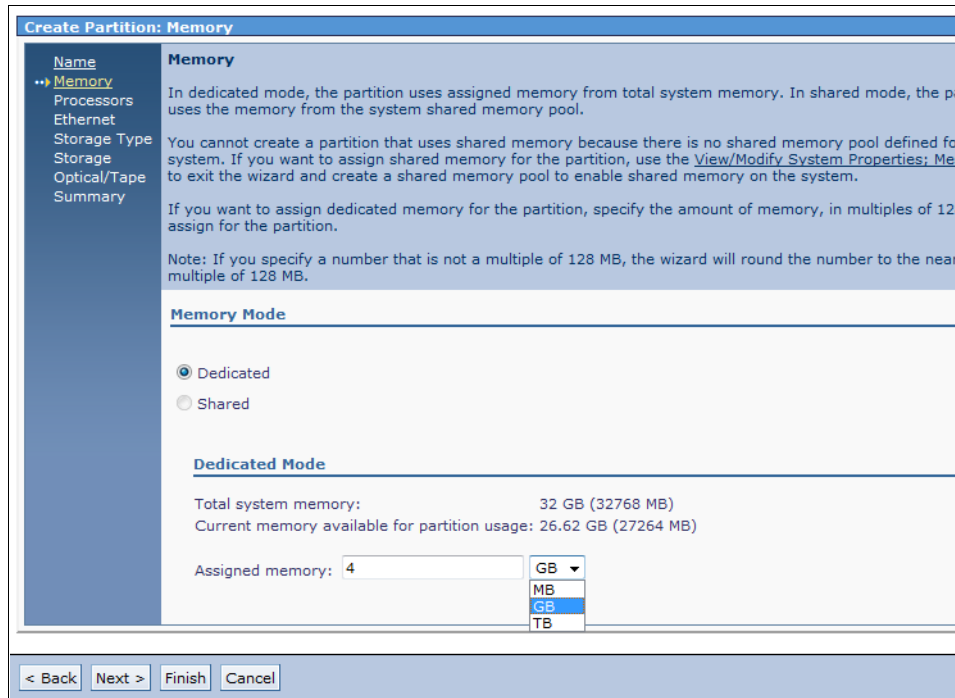

Figure 8-66 IVM Create Partition Memory window
4. Complete the following steps in the Memory window, as shown in Figure 8-66: